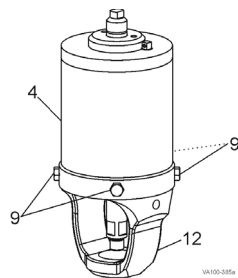

Figure 42:
1. Remove the cap screws (Figure 42, item 9) and pull the yoke (item 12) from the actuator cylinder (item 4).